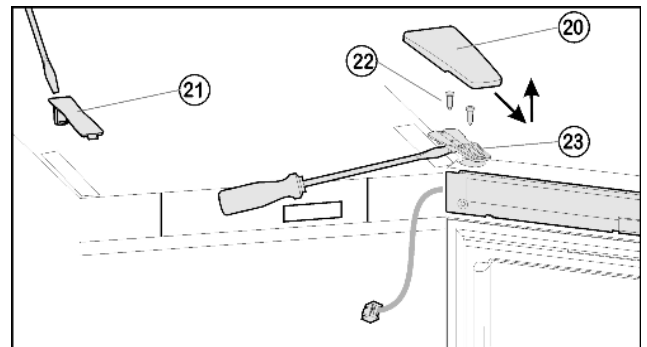

Fig. 10
- ▶ Pull off the cover Fig. 10 (20) forwards and upwards.
- ▶ Lift off the cover Fig. 10 (21).
- ▶ Undo the screws Fig. 10 (22) all the way.
- ▶ Lift and remove the door complete with turn hinge Fig. 10 (23) and cable. For release, possibly use a flat-blade screwdriver to apply lever action under the turn hinge.